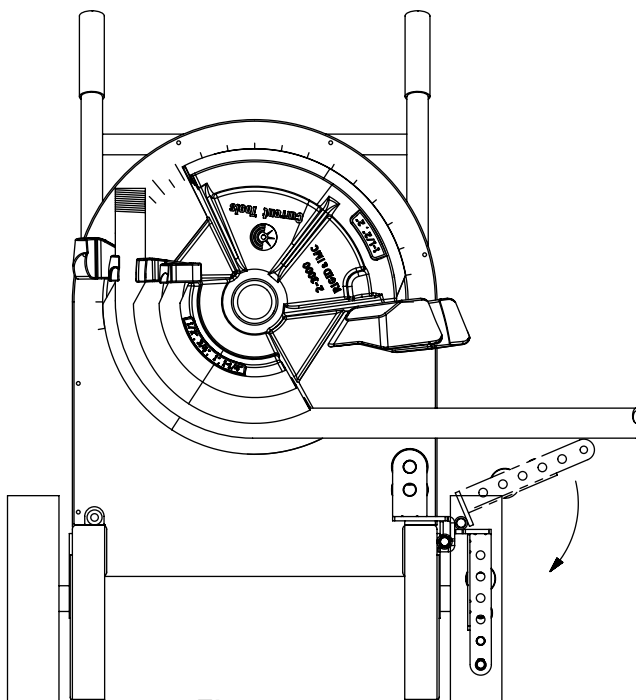

Figure 13a
5. To release the pipe/conduit, place the "Bend/Unload" switch in the "Unload" position. Press the "Jog" button and reverse the shoe far enough to release the conduit. Then, rotate the roller support out of the way. See Figure 13a & 13b. The pipe/conduit can now be removed.